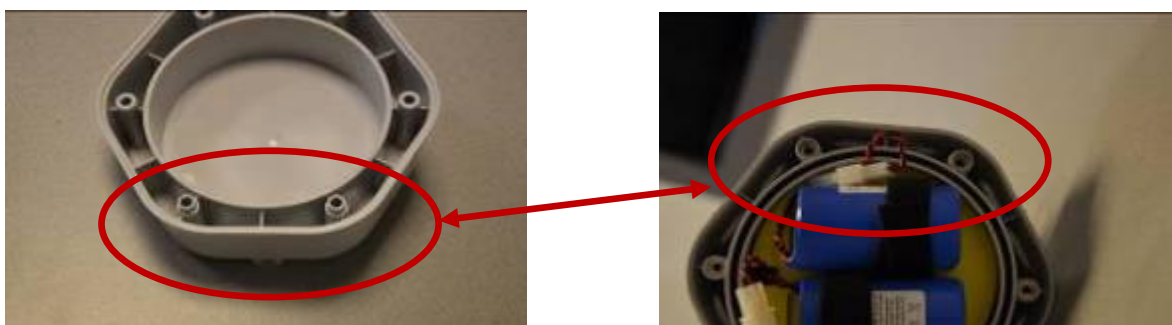

Figure 29: Locating guides for the head of the HydrINS 2 flow meter
- MilSpec: By power supply via the military connector and a CNT 104 or CNT 105 cable as illustrated above (Figure 29)